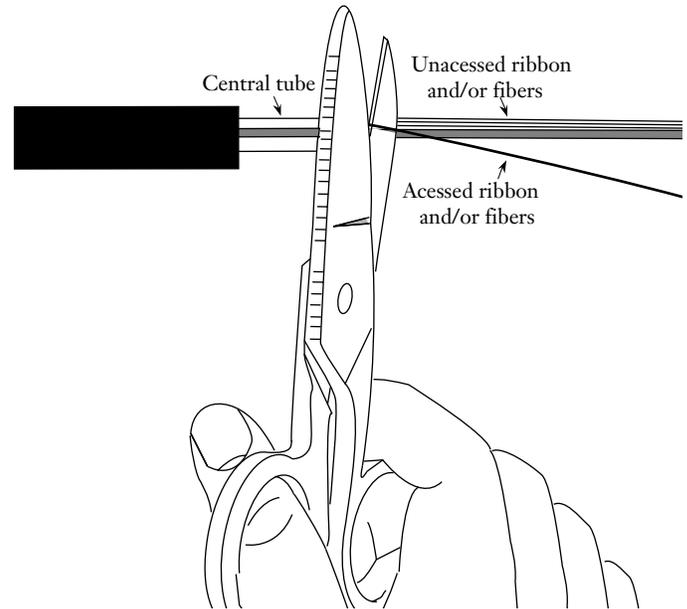

Figure 46
8.6 Using scissors, cut the fiber(s) (or ribbon) to be accessed as close as possible to the end of the central tube (Figure 46) **USE EXTREME CARE TO CUT ONLY THE FIBER(S) TO BE ACCESSED.**